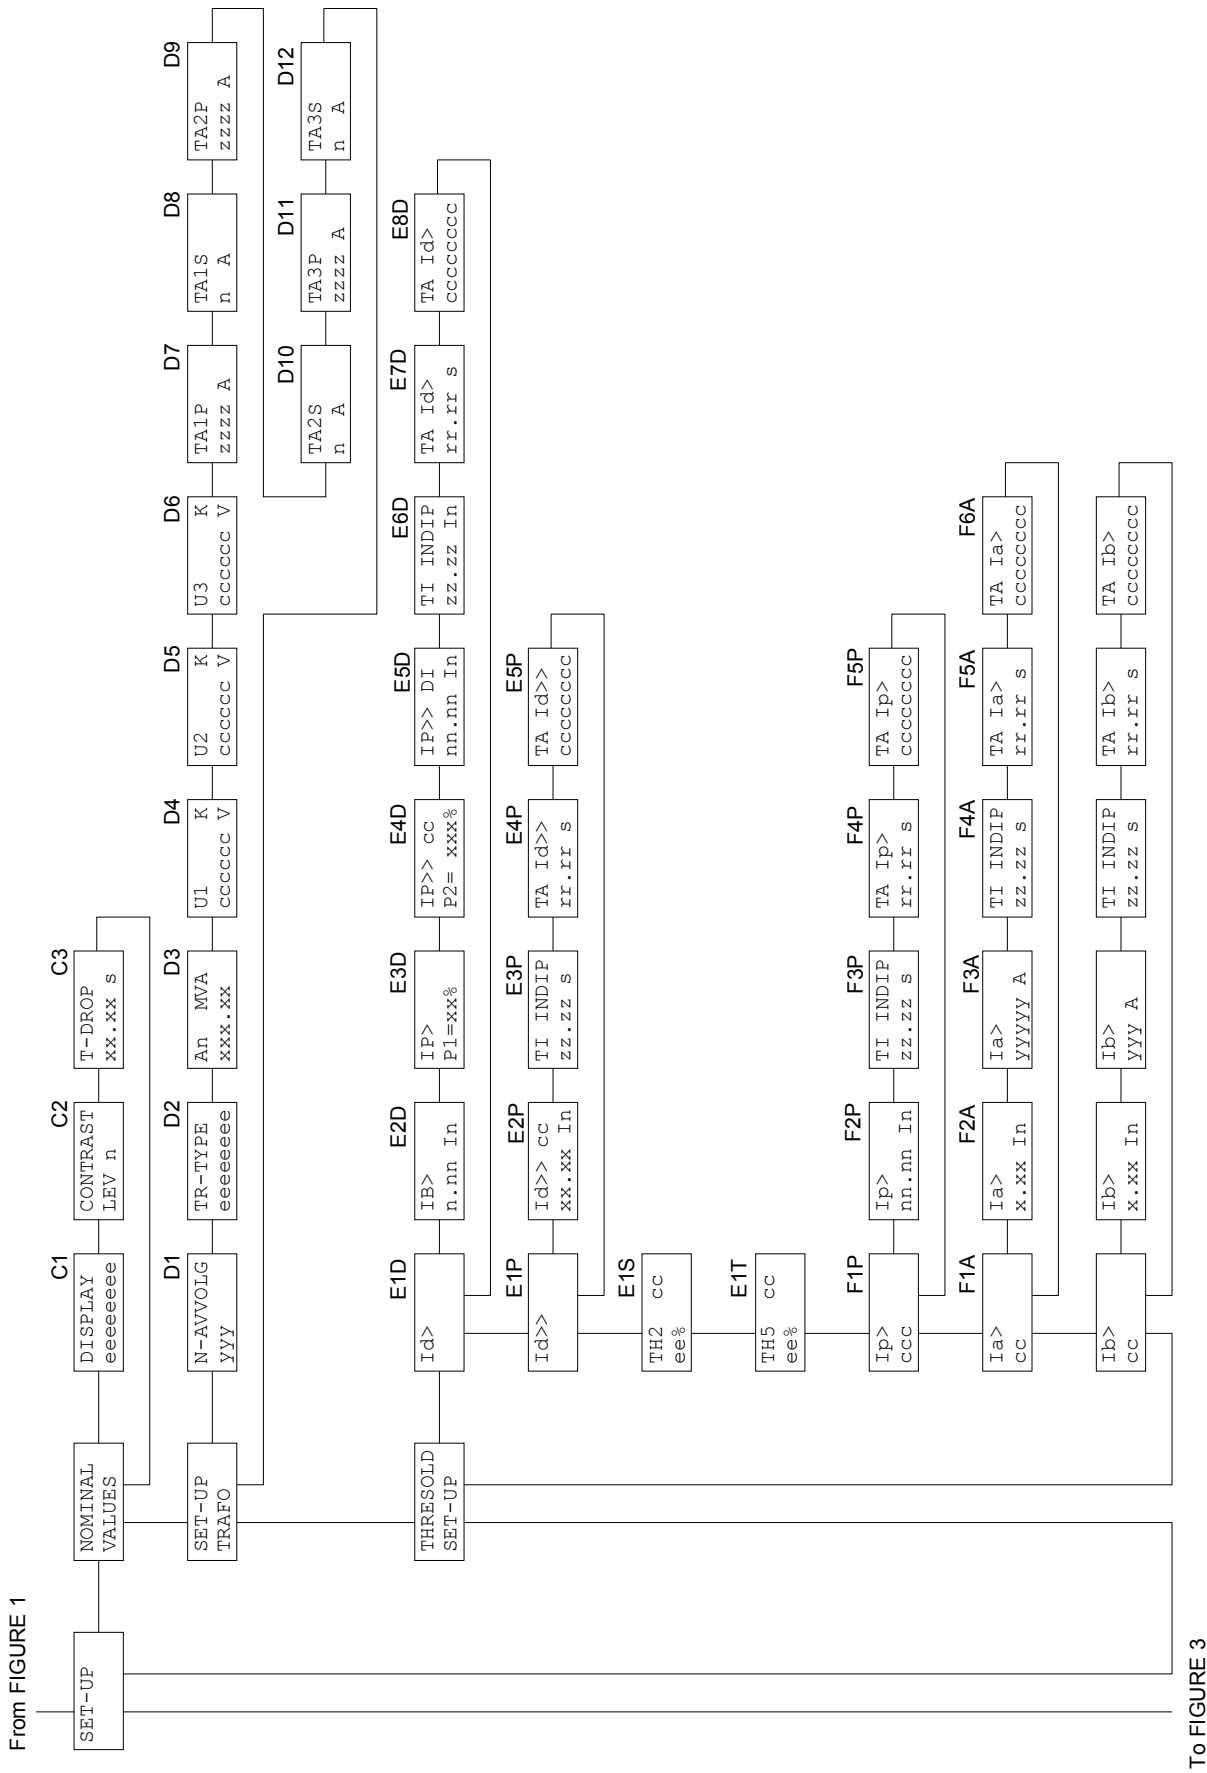

Figure 2
**5.5 Nominal values of the protected transformer (fig. 2)****D1 - NUMBER OF WINDINGS (programmable)**